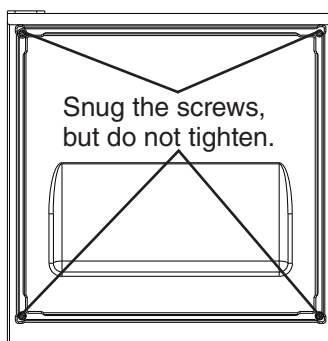

Fig. 24
- 5) Fasten the overlay panel to the door using the four M4×25 pan head screws provided. **Snug the screws, but do not tighten.** See Fig. 24.